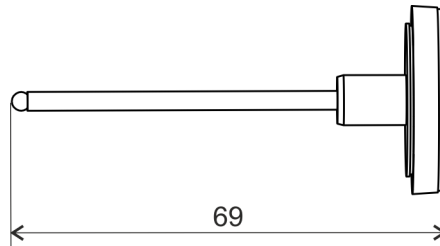

Fig. 10: Adjusting the needle setting dimension
9. ➤ Adjust the needle setting dimension ( Fig. 10).